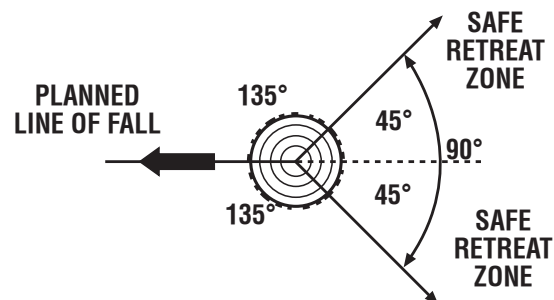

Fig. 12
See Figures 12 - 15.
- Before any cuts are started, pick your escape route (or routes in case the intended route is blocked); clear the immediate area around the tree and make sure there are no obstructions in your planned path of retreat. Clear path of safe retreat approximately 135° from planned line of fall. The retreat path should extend back and diagonally to the rear of the expected line of fall. *See Figure 12.*